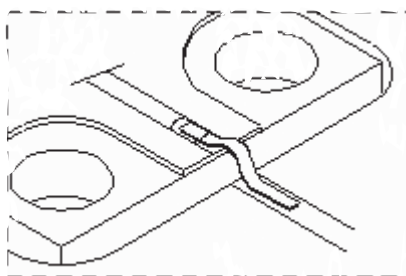

Figure 4
- 2) The second method uses a pure silver ribbon for the interface (Figure 4). The mixer trace is reflowed with solder alloy or is tin plated. The silver ribbon is then solder reflowed onto the mixer trace, a small stress relief is formed, and the other end of the silver ribbon is gap welded to the gold system trace.